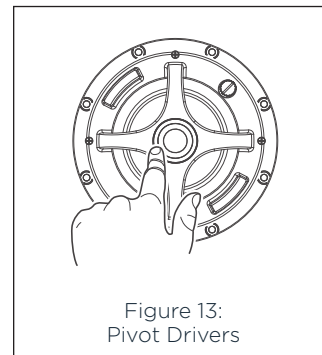

Figure 13:
- Sonance Professional Series loudspeakers have a pivoting tweeter assembly, allowing the treble to be directed to the most suitable location if the speaker is installed of-axis. To pivot the drivers apply light pressure to the ring around the outside edge of the tweeter cone. Take care not to touch or apply pressure to the cone itself (see Figure 13).